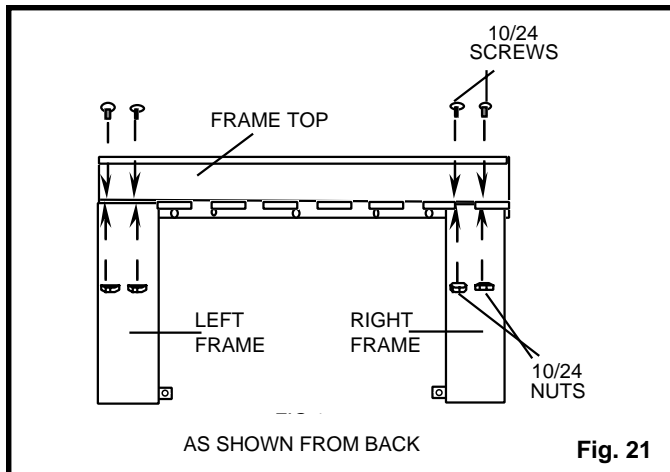

Fig. 21
2. Install the nuts and bolts (Fig. 21).